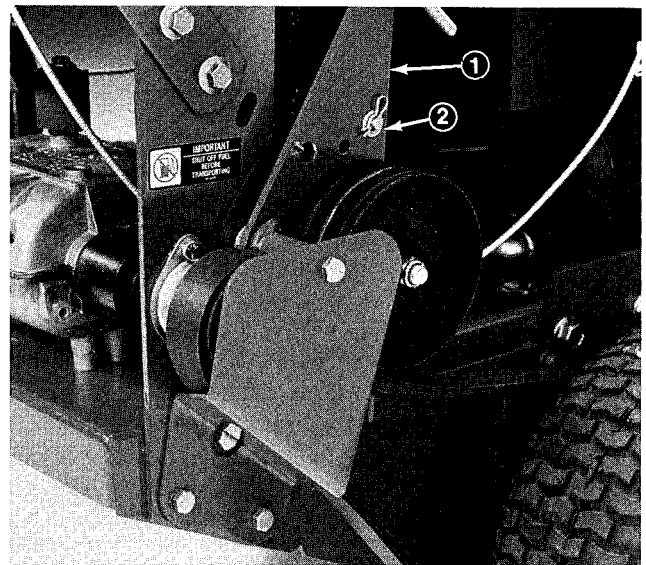

Figure 9
6. If an adjustment to brake rods is required, remove hairpin cotter and washer securing brake rod fitting to idler bracket (Fig. 9).
5. Wipe end of dipstick with clean rag and insert it into filler neck. Rotate cap clockwise. Then remove the dipstick and check level of oil by reading the dipstick (Fig. 9). If level of oil is low, add only enough oil to raise level to FULL mark on dipstick. **DO NOT ADD OIL SO LEVEL RISES ABOVE FULL MARK BECAUSE ENGINE COULD BE DAMAGED WHEN IT IS STARTED.**